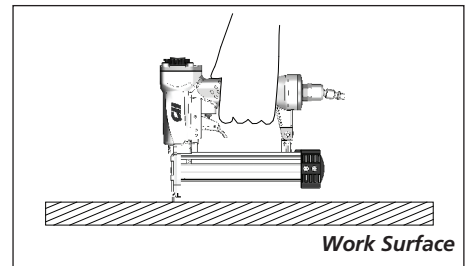

Figure 11
5. Depress the WCE against the work surface without pulling the trigger (See Figure 11). The nailer **MUST NOT OPERATE**. Do not use the tool if it operates without pulling the trigger. Personal injury may result.